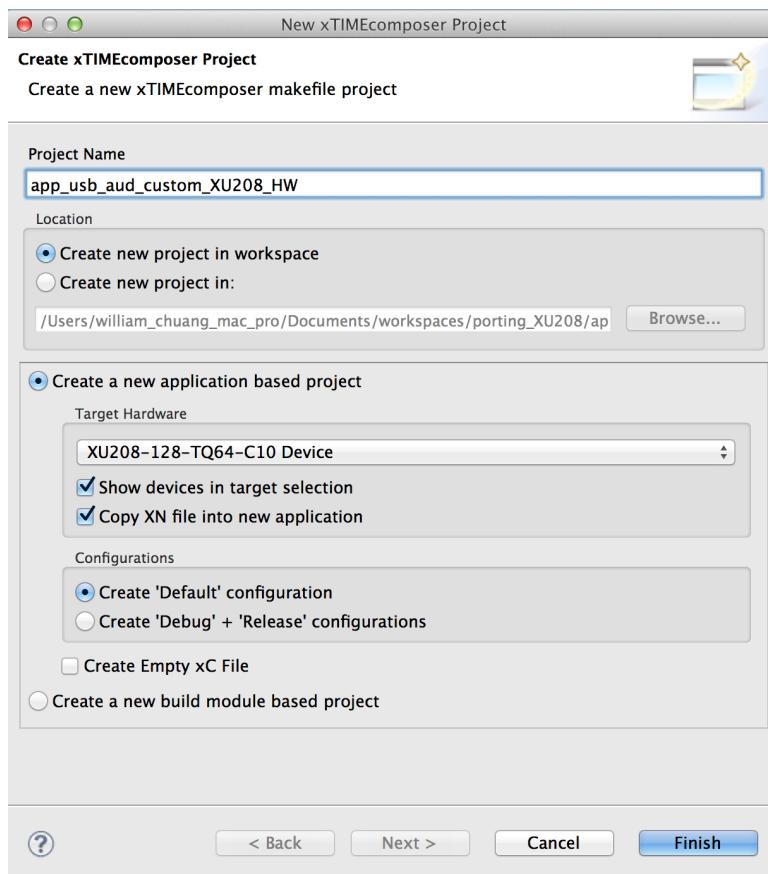

Figure 1: Example of creating a new project
2. In the **New xTIMEcomposer Project** dialog (see Figure 1), fill in the project name in the **Project Name** field (in this application note, it is named as “app_usb_aud_custom_XU208_HW”).